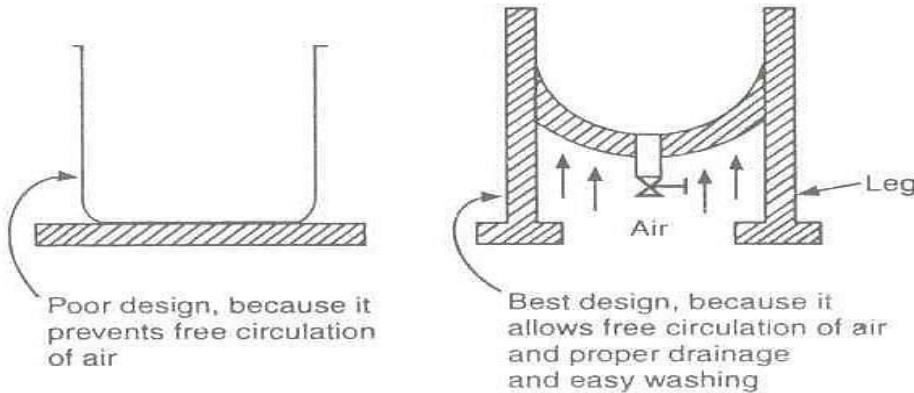

Figure 14: Improved design to minimize differential aeration corrosion
c) **Avoid residual moisture:** The design should be such as to protect the structure from retained or residual moisture. To avoid residual moisture, ventilation is usually as important as drainage. Free circulation of air should reduce condensation. (Figure 14)